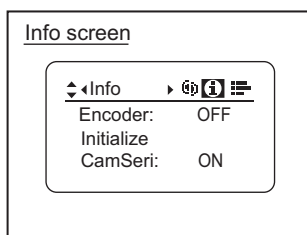

Fig1-9
7. Info screen [Icon] (See Fig. 1-9 below)